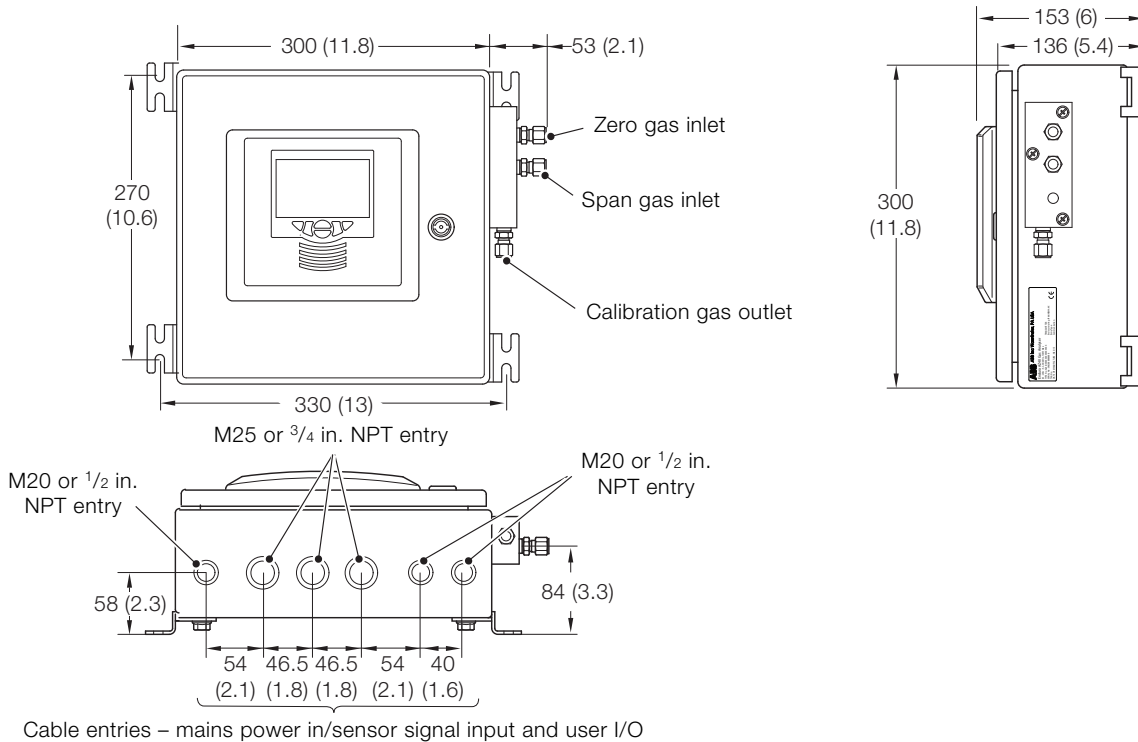

Fig. 2 Endura AZ40 transmitter – main components / dimensions
- transmitter (controller / display unit), see Fig. 2